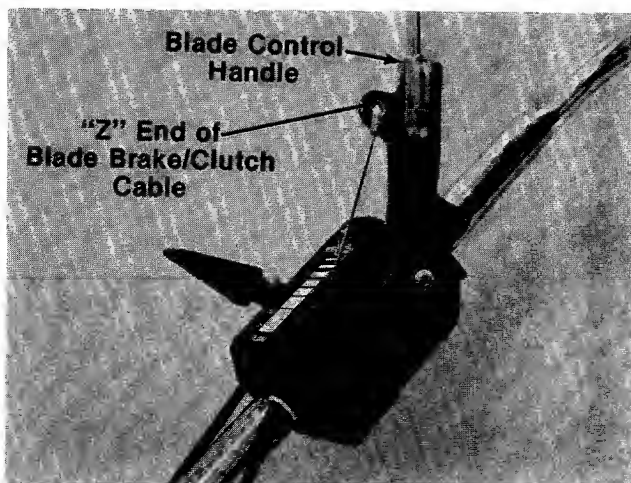

FIGURE 5.
7. Hook the “Z” end of the blade brake/clutch cable into the hole in the blade brake/clutch control handle. See figure 5. If additional slack is needed in order to hook the cable into the handle, proceed as follows.